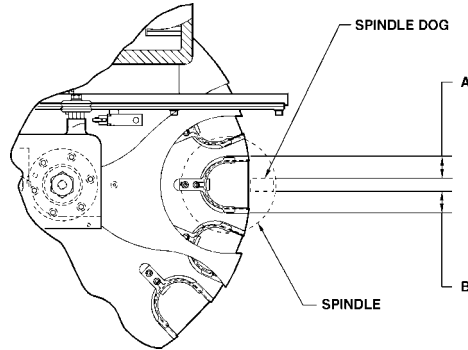

Fig. 14-1 Underside showing centering measurements.
2. Using the dial calipers, measure from the left side of the spindle dog to the left side of the turret pocket (Measurement "B" in Fig. 14-1).
3. Pivot the tool holder toward the front of the machine and measure from the right side of the spindle dog to the right side of the turret pocket (Measurement "A" in Fig. 14-1).